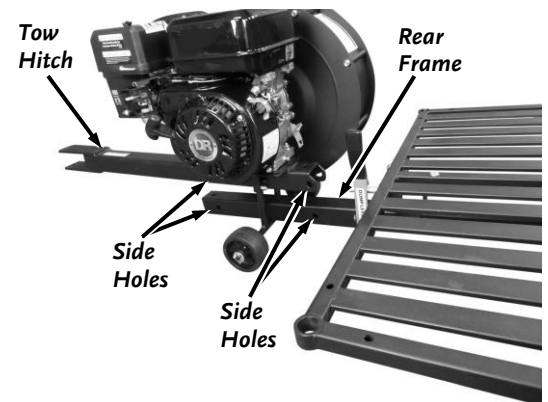

Figure 13
- Position the Power Unit at the front of the Rear Frame with the Tow Hitch facing forward (**Figure 13**).